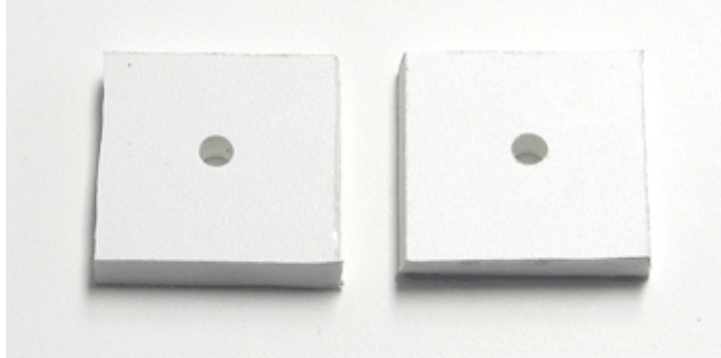

Figure 16. Square hubs with center holes drilled.
3. In the center of each square, drill a hole; at least 11/64-inch in diameter; to accommodate the axle of each DC motor, as shown in Figure 16.